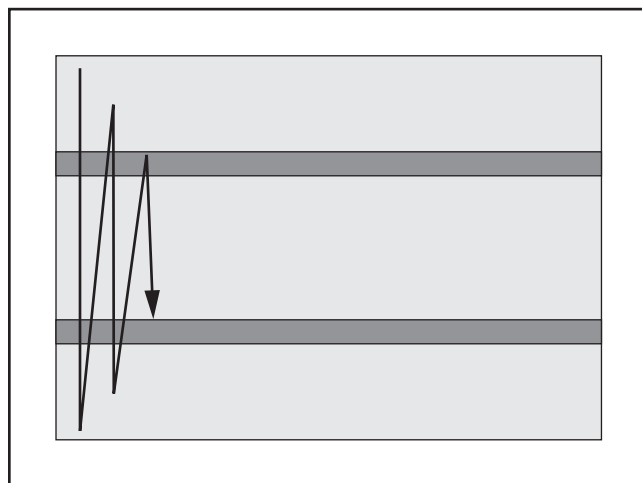

Figure 31. Example of rolling inside to inside line.
3. Roll workpiece from inside line on one side to inside line on opposite side (see **Figure 31**).